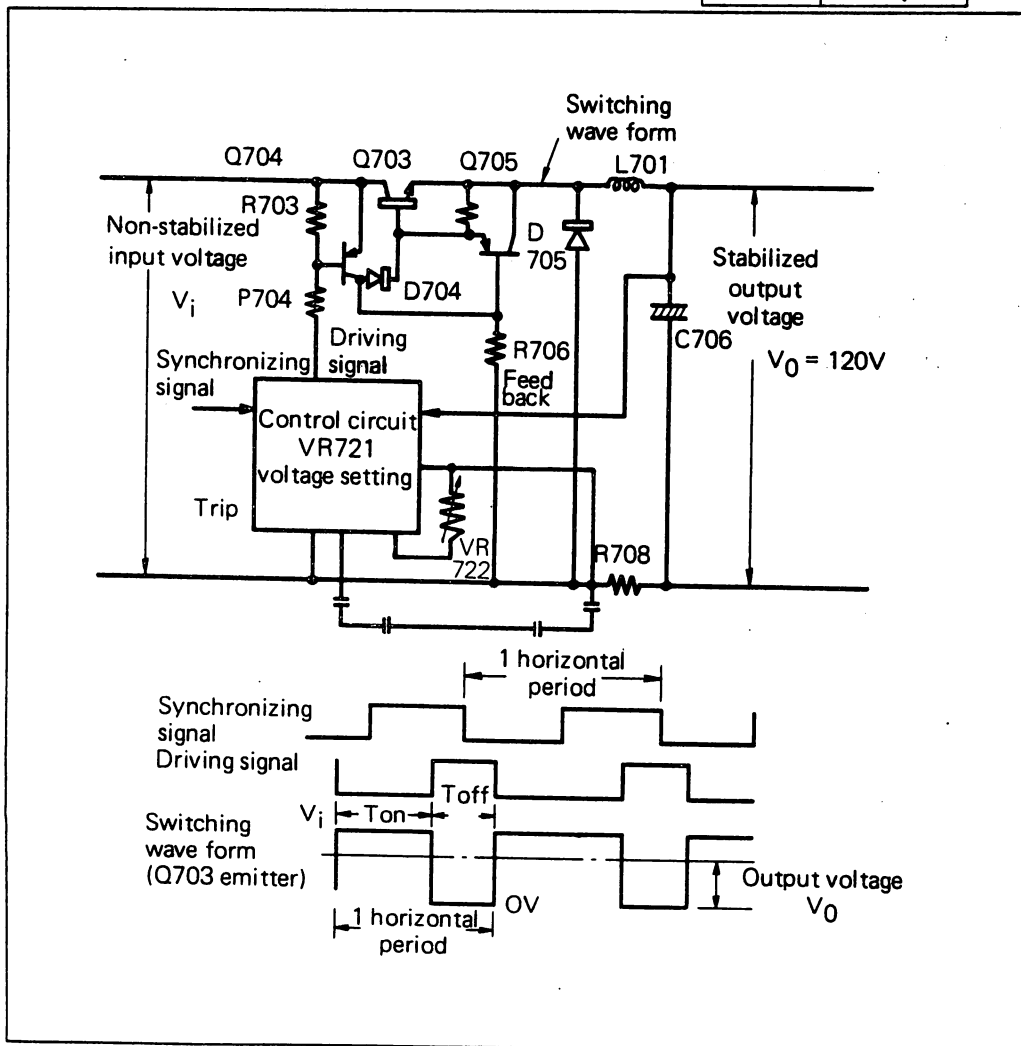

Figure 4-11 Voltage regulator P120
c. Voltage regulator P120 (Figure 4-11)